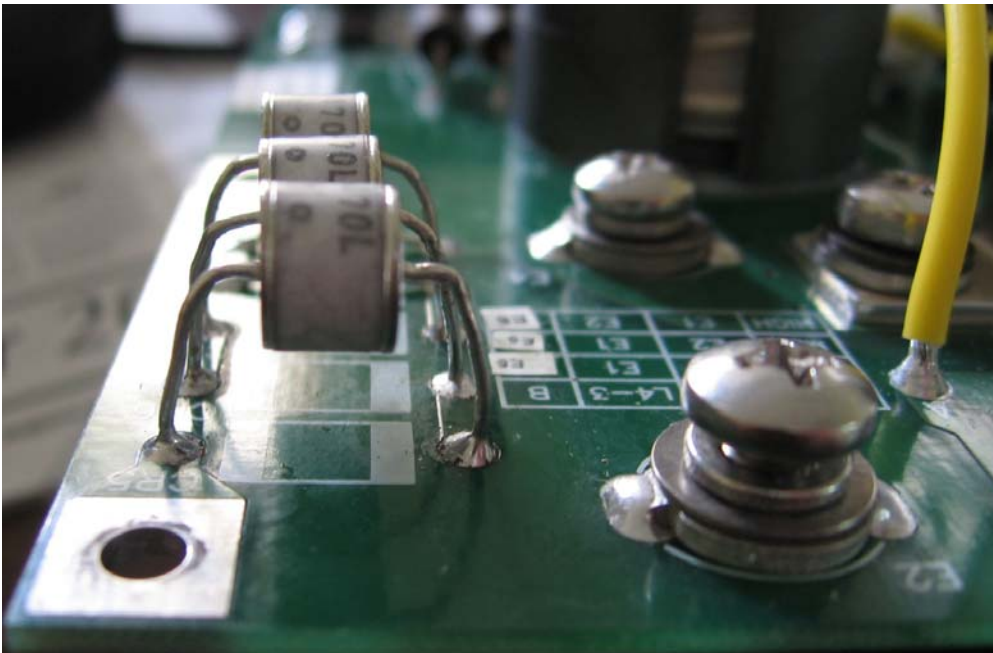

Figure 1: Surge arrestor installation
- For an NAFP99: remove diodes CR4, CR6, CR7, CR8 and CR9. Install three UM83 surge arrestors, from the 197-8068-01 parts kit, in the CR4, CR7, and CR8 locations, leaving approximately 1 cm (1/4 inch) of space between the component and board (see Figure 1). Install WE16 solid tinned copper wire jumpers in the CR6 and CR9 locations.
- For an NAPF07: remove diodes CR5, CR6, CR7, CR8 and CR9. Install three UM83 surge arrestors, from the 197-8068 parts kit, in the CR5, CR6 and CR7 locations, leaving approximately 1 cm (1/4 inch) of space between the component and board (see Figure 1). Install WE16 solid tinned copper wire jumpers in the CR8 and CR9 locations.